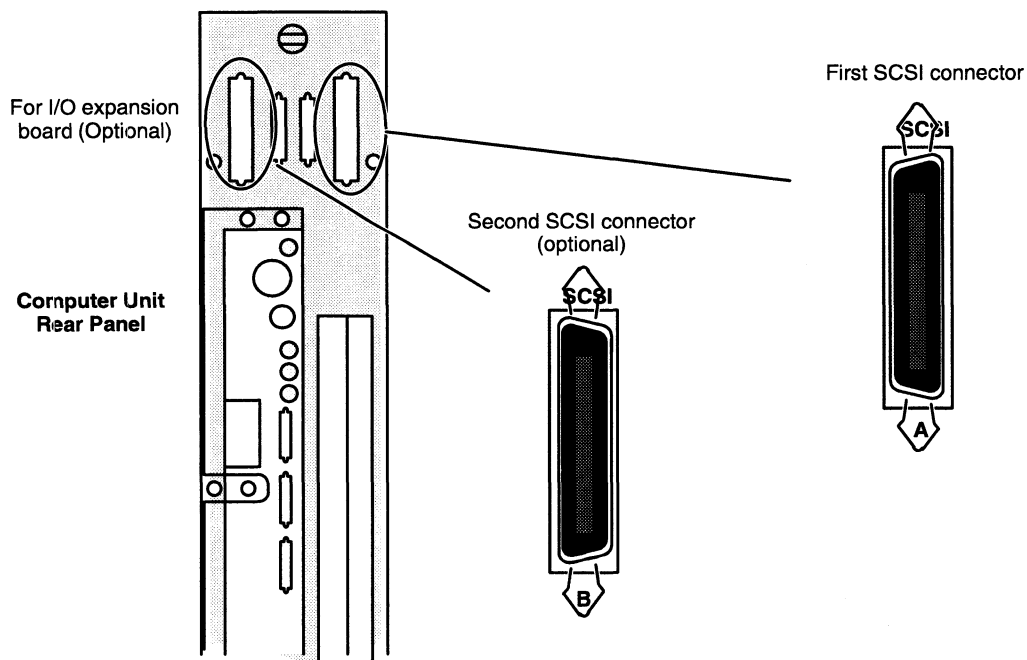

Figure 2-12 AViiON 530 and 4600 Series SCSI Bus Connectors
1. Locate the CHAMP terminator plug, Data General number 005033334, and the SCSI rear panel connector shown in Figure 2-12.